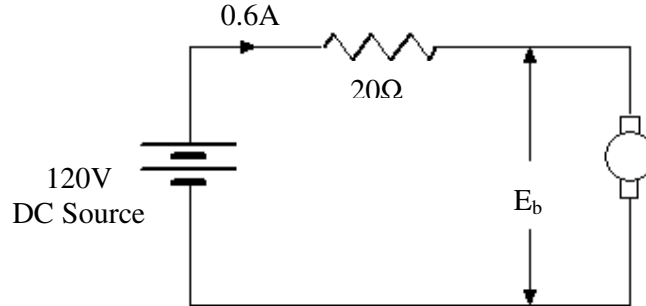

Fig. F1
- Q.5** A 120V, 60Hz, 1/4hp universal motor runs at 2000 rpm and takes 0.6A when connected to a 120V d.c. source. Determine the speed, torque and power factor of the motor when it is connected to a 120V, 60 Hz, supply and is loaded to take 0.6A (rms) of current. The resistance and inductance measured at the terminals of the motor are 20 ohm and 0.25H respectively. (7)
Ans: Universal Motor: (A) When connected to a d.c. source it runs at 2000RPM and takes 0.6A [Fig F1]